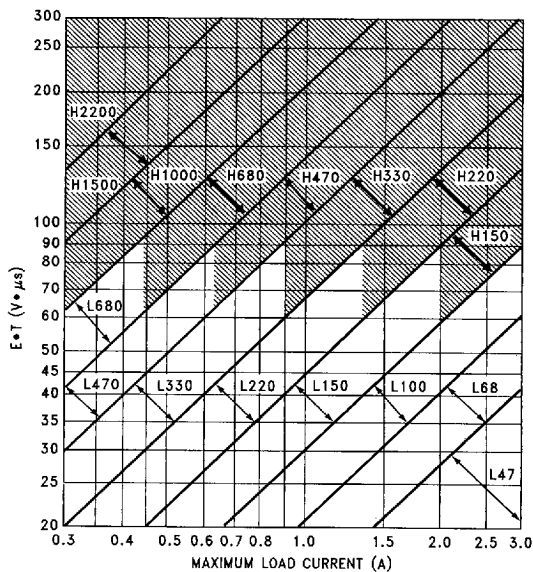

FIGURE 7. LM2576(HV)-ADJ
B. Use the $E \cdot T$ value from the previous formula and match it with the $E \cdot T$ number on the vertical axis of the **Inductor Value Selection Guide** shown in Figure 7.